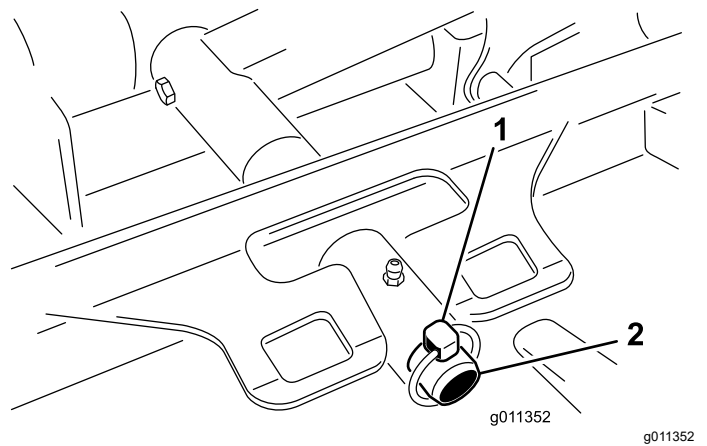

Figure 11
3. Remove the lynch pin or retaining nut (GM 4700 only) securing the deck carrier frame to the lift arm pivot pin (Figure 11).
3. Slide deck carrier frame onto lift arm pivot pin. Secure with lynch pin or retaining nut (GM 4700 only) (Figure 11).